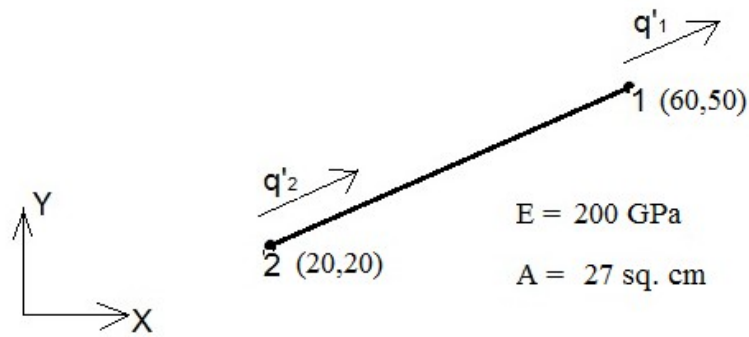

Fig.1: A truss element (Figure for Q.4)
Q.4: A truss element, with local node numbers 1 and 2, is shown in Fig. 1.